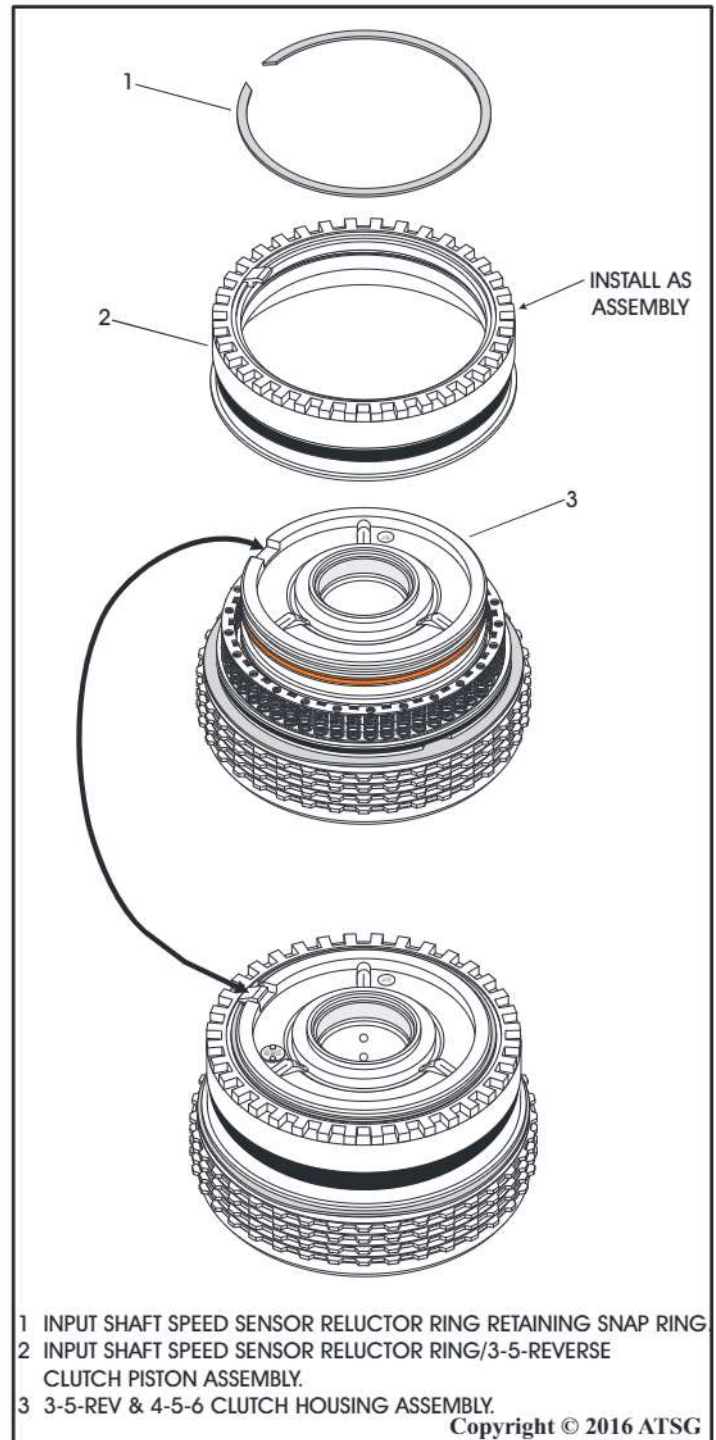

Figure 115
75. Lubricate the lip seals of 3-5-Rev clutch piston and install into the speed sensor reductor ring, as shown in Figure 115.
77. Install the reductor wheel and 3-5-Rev piston as an assembly, as shown in Figure 115.
Note: The reductor ring must be rotated so that alignment tab fits into the slot in the housing, as shown in Figure 115.